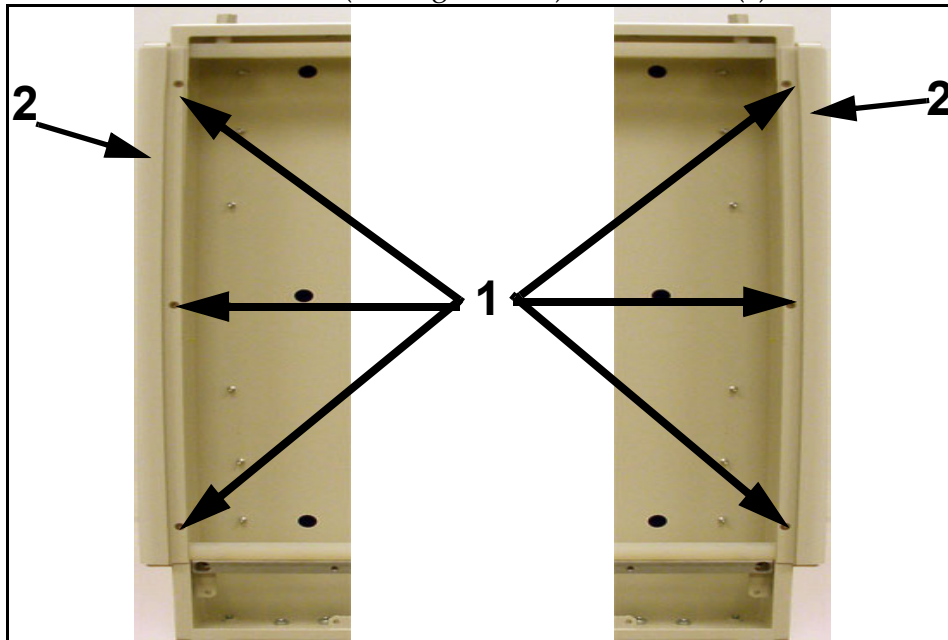

Figure E-38. Front Cover Installation
47 Install cover (2 in Figure E-38) with screws (1).